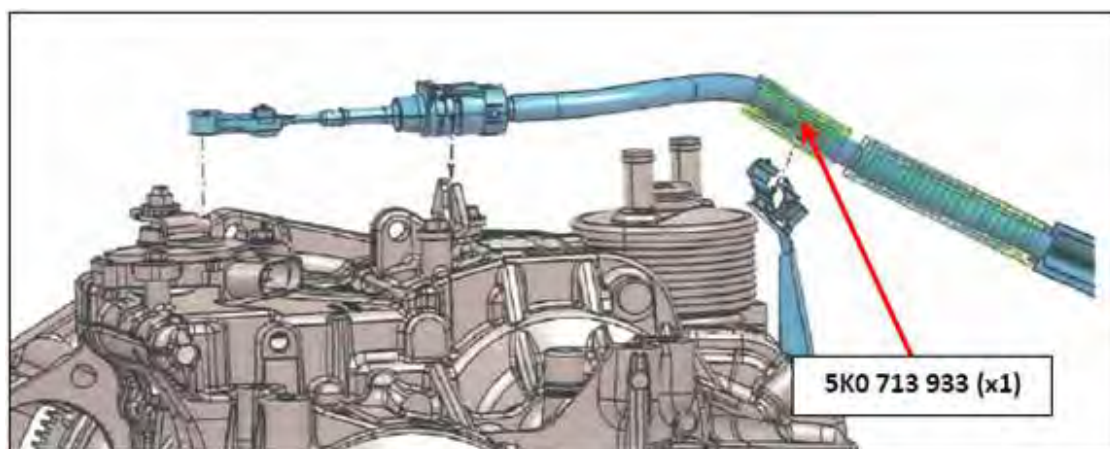

Figure 2
- Install and properly position rubber star hose Part No. 5K0 713 933 (1) onto shifter cable as indicated in figure 2.
Slight trimming or movement of existing cable shielding may be necessary to properly install rubber star hose Part No. 5K0 713 933 onto shifter cable (figure 2).